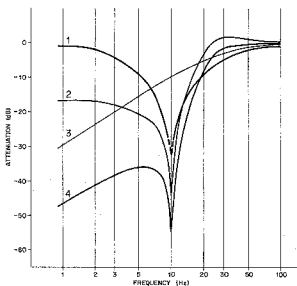
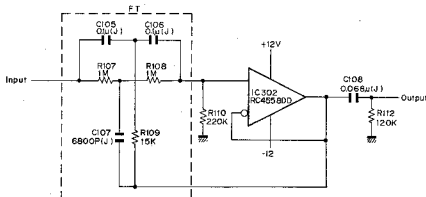

Fig. 2.10
Fig. 2.9 Subsonic Filter Circuit
Fig. 2.9 shows the subsonic filter of the High-Com II. The portion represented by FT is generally known as a twin T filter. Its characteristics are illustrated in Fig. 2.10 (1). As shown, the curve of the twin T filter rapidly drops at 20 to 50 Hz, and attenuation at below 5 Hz is rather small. These demerits have been smartly eliminated by the High-Com II as follows:
As shown in Fig. 2.9, the output from the twin T filter is amplified by OP-amp. IC302 and taken from its output terminal. This output provides positive feedback to the non-inverting input of IC302 through C108 and R109. This greatly reduces the level down in the range 20 to 50 Hz. For greater attenuation in the range below 5 Hz, R110 is added to lower the load impedance of the filter and to change the impedance of each element so that the asymmetric curve as shown by Fig. 2.10 (2) can be achieved.
The curve shown in Fig. 2.10 (2) is satisfactory for the subsonic filter except insufficient attenuation at below 5 Hz.
Besides the High-Com II uses a CR filter consisting of C108 and R112 to achieve a more ideal subsonic filter curve as shown by Fig. 2.10 (4). (In Fig. 2.10 (3) shows the CR filter curve and (4) is a combination of curves (2) and (3).)